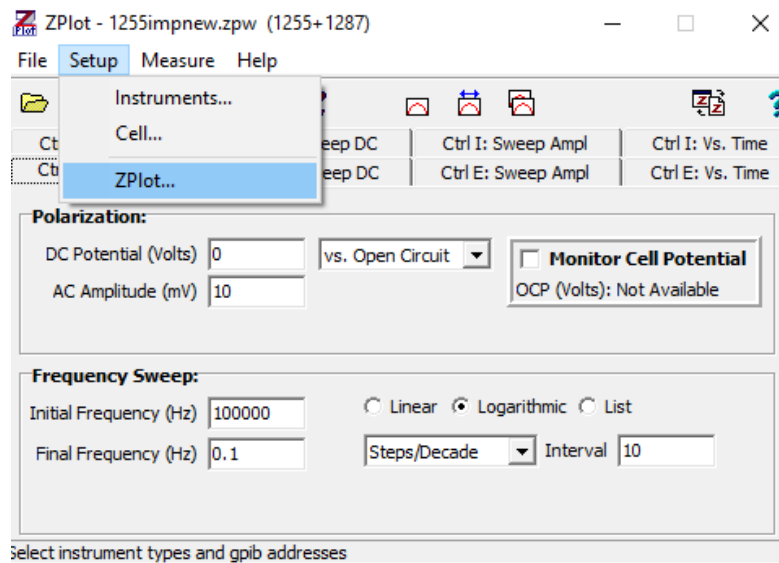

Figure 3
a. Open the ZPlot program. Click “Setup”, then “ZPlot” (Figure 3).
- If using ZPlot software, select “Setup”, the “ZPlot”, as shown in Figure 2. Change the GPIB addresses for the analyzer and the Pstat/Gstat or Interface to match the appropriate numbers as in Figure 3.*